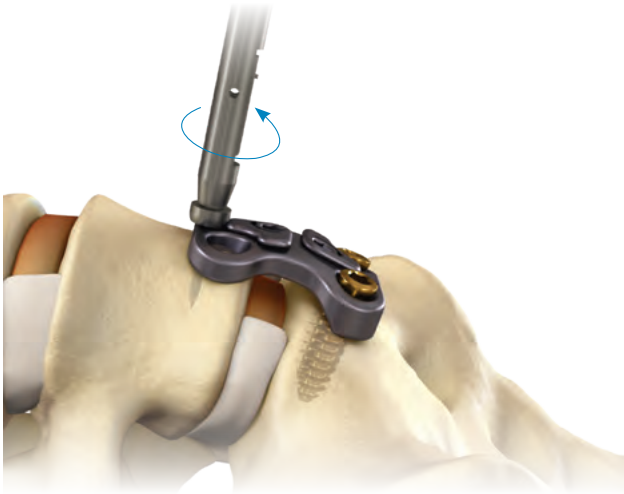

Figure 24:
- Remove the temporary fixation pins before repositioning the ATO guide tube. Use the pin inserter to engage the top portion of the pin; rotate counterclockwise to remove the temporary fixation pin (Figure 24).